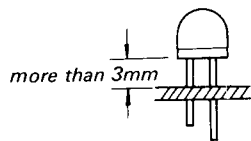

Fig. 1
- 1) Perform the soldering within 5 seconds with a soldering iron below 25W. The clearance between the tube and the board should be more than 3 mm (Fig. 1).